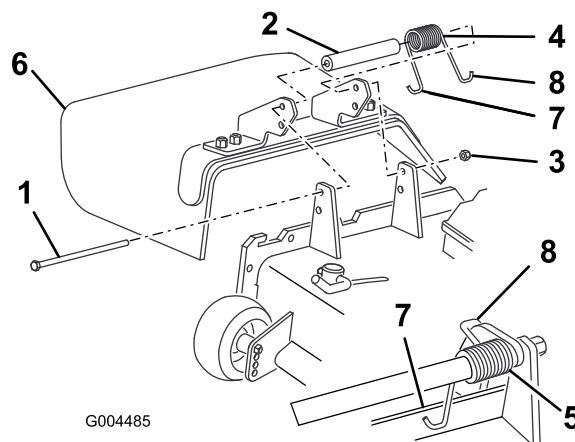

Figure 78
2. Remove the locknut, bolt, spring and spacer holding the deflector to the pivot brackets (Figure 78). Remove damaged or worn grass deflector.
3. Place the spacer and spring between the replacement grass deflector brackets (Figure 78). Place the left hand J hook end of the spring behind the deck edge.
Note: Make sure the left hand J hook end of the spring is installed behind the deck edge before installing the bolt as shown in Figure 78.
4. Install the bolt and nut. Place the right hand J hook end of the spring around the grass deflector (Figure 78).